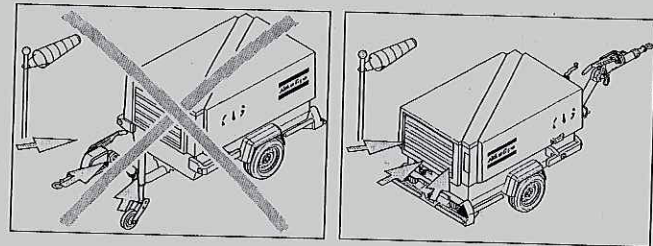

Fig. 3.4 Rear-end of compressor upwind
Apply parking brake by pulling parking brake handle (3) upwards. Place the compressor as level as possible; however, it can be operated temporarily in an out-of-level position not exceeding 15°. If the compressor is parked on sloping ground, immobilise the compressor by placing wheel chocks (available as option) in front of or behind the wheels. Locate the rear-end of the compressor upwind, (see Fig. 3.4), away from contaminated wind-streams and walls. Avoid recirculation of exhaust air from the engine. This causes overheating and engine power decrease.